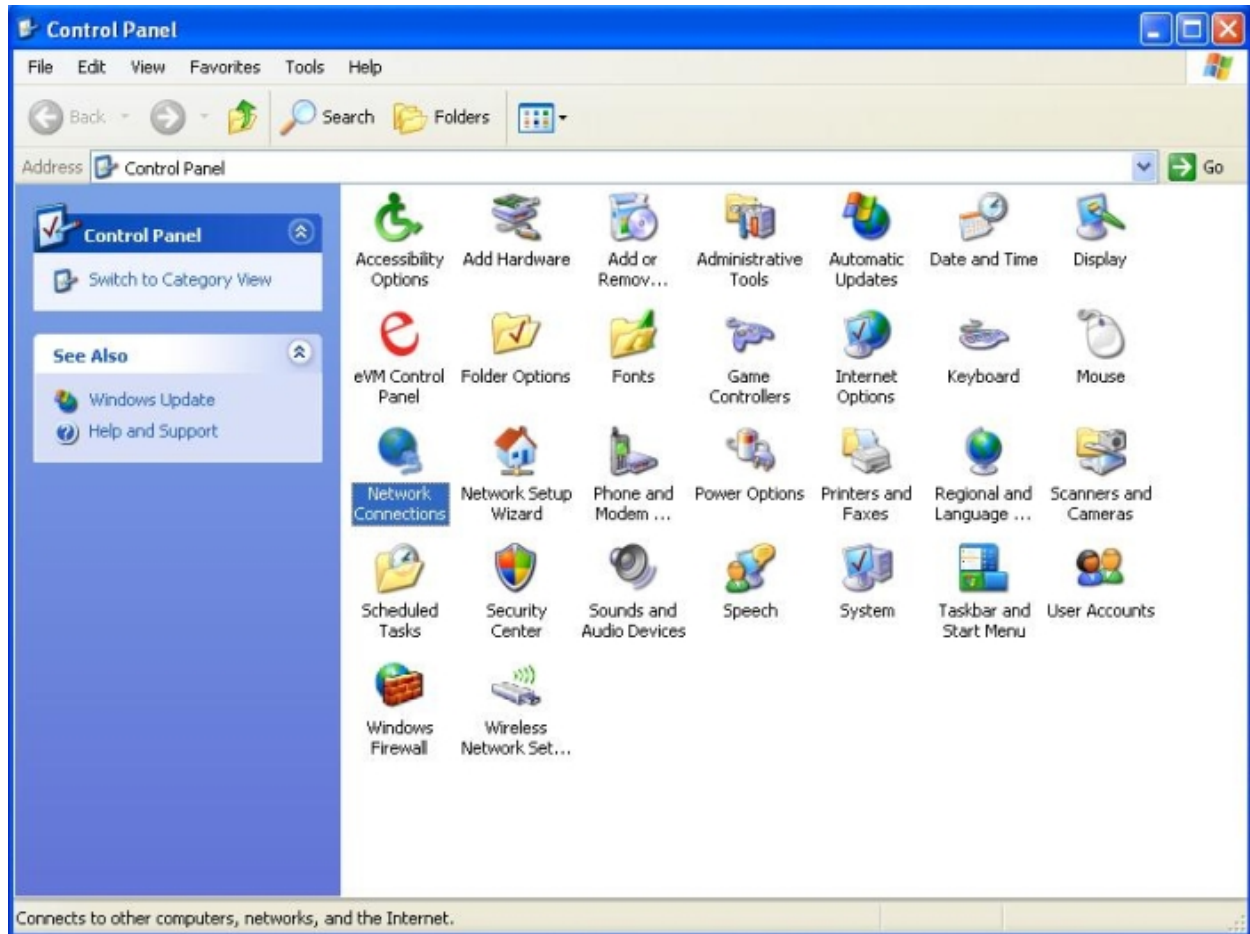

Figure G. 1 - Windows Control Panel, Select Network Connections
1. Open the **Windows Control Panel** and double-click on **Network Connections**, Figure G. 1.